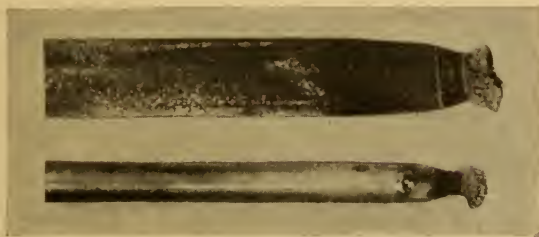

FIGURE 84
(31) What is known as a “mushroom” carbon tip is illustrated in Fig. 84, in which a mushroom appears on the positive (at the top) and a negative (at the bottom). It is caused by burning an arc too short. The only remedy is to carry a longer arc.